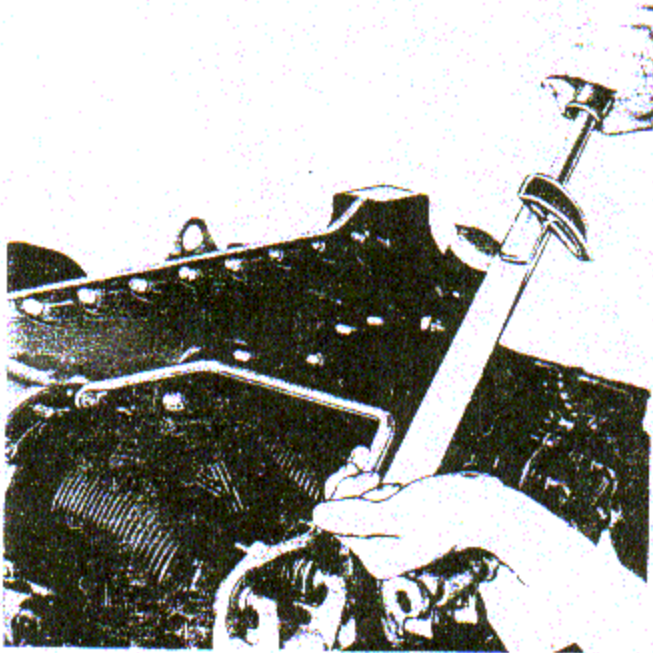
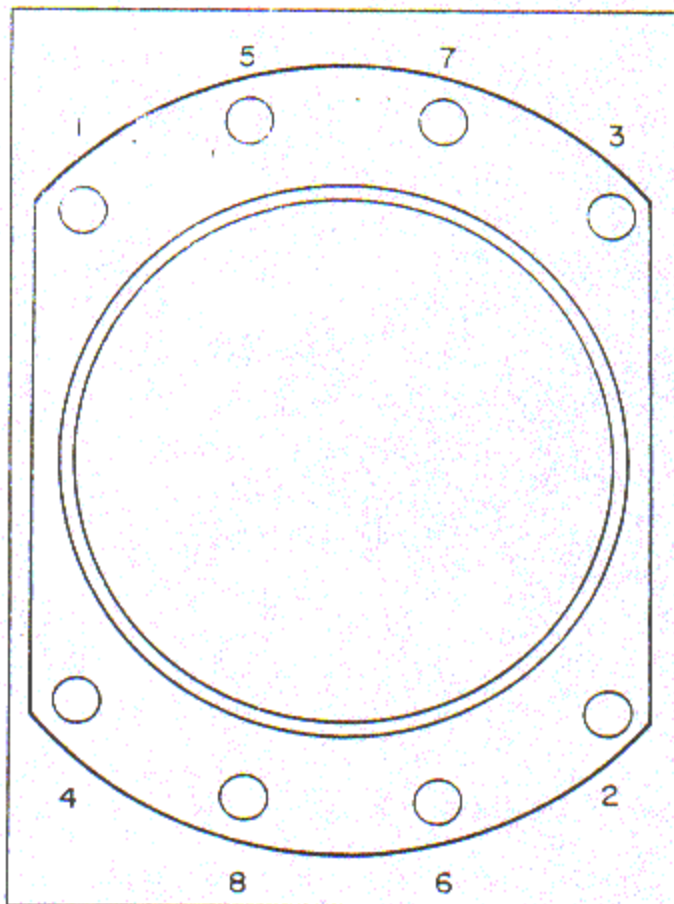

Figure 7-6. Tightening Cylinder Base Nuts
Figure 7-7. Cylinder Base Nut Torque Diagram
g. Using a torque indicating wrench and the Group 4 cylinder base nut wrench (see figure 7-6), tighten the cylinder base nuts to the torque specified in Section X for 7/16-20 cylinder base nuts, in the sequence shown in figure 7-7. Then starting with No. 1 (figure 7-7), go around the cylinder base in a clockwise direction, tightening the base nuts to their specified torque. Install nut locks on all through bolts and crankcase studs after the base nuts have been tightened.